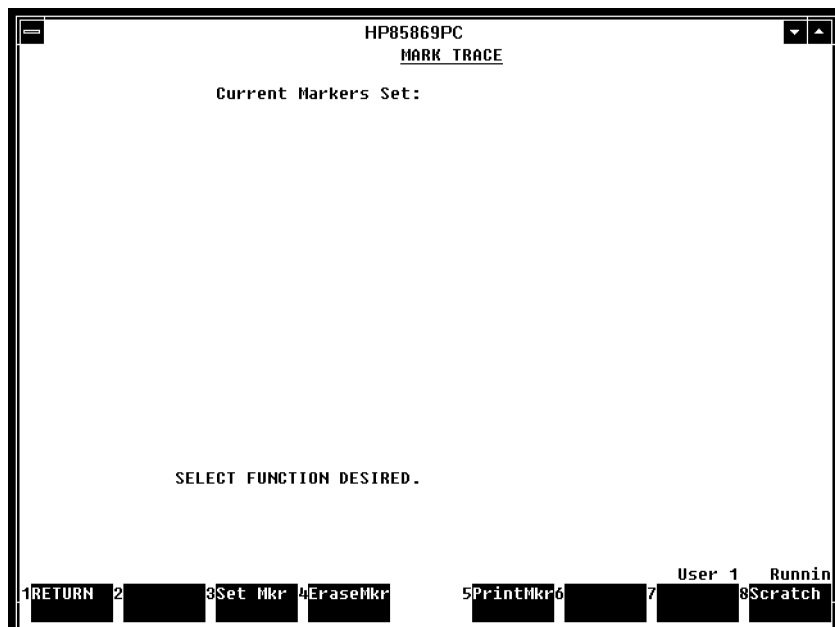

Figure 7-35. Mark Trace Option with No Markers Set
4. After pressing the **SELECT** softkey, a display similar to Figure 7-35 appears on your computer.